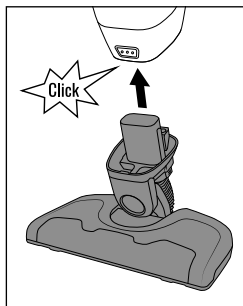

Fig. 2
- ◆ Insert the motor unit ③ into the floor nozzle ⑭ until you hear it click into place (see fig. 2).